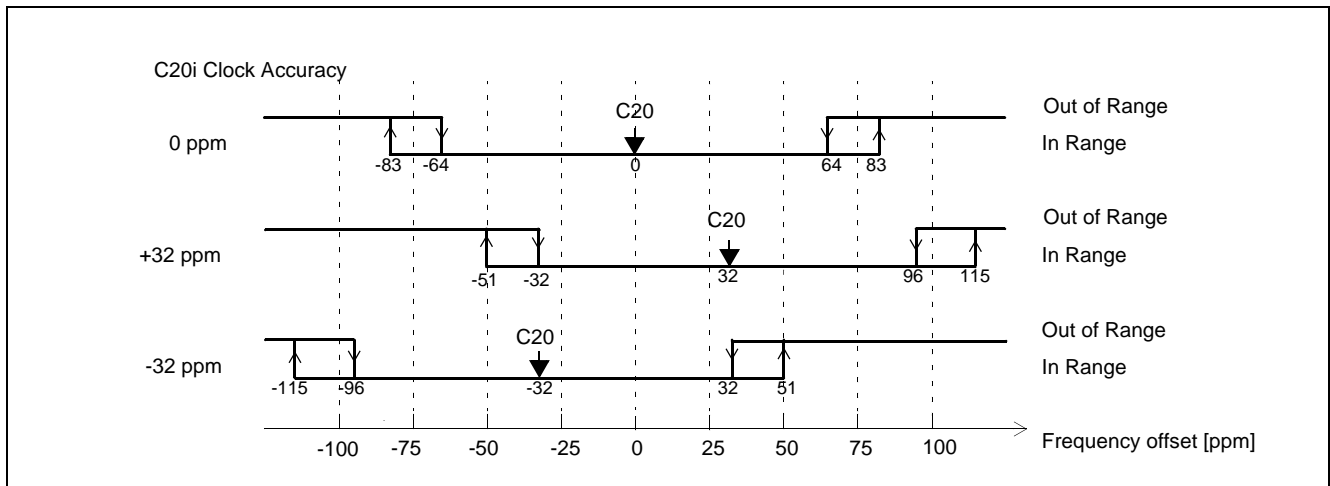
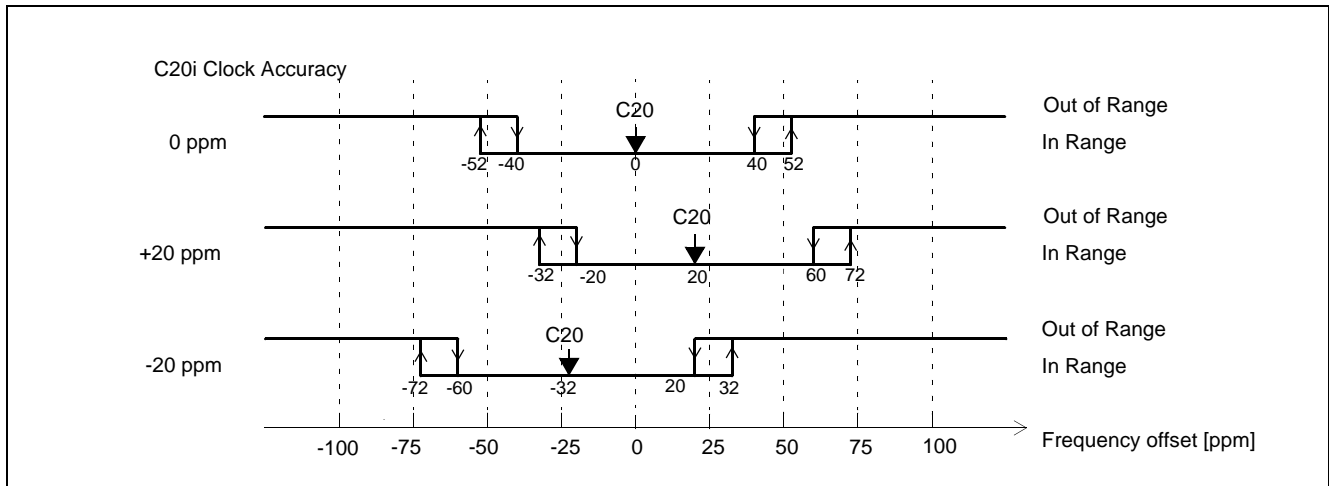

Figure 5 - Out-of-Range Thresholds for OOR_SEL=1
Figure 6 - Out-of-Range Thresholds for OOR_SEL=0
- **Precise Frequency Monitor (PFM):** This circuit determines whether the frequency of the reference clock is within the applicable accuracy range defined by the OOR_SEL pin, see Figure 5, Figure 6 and Table 2. It will take the precise frequency monitor up to 10 s to qualify or disqualify the input reference.